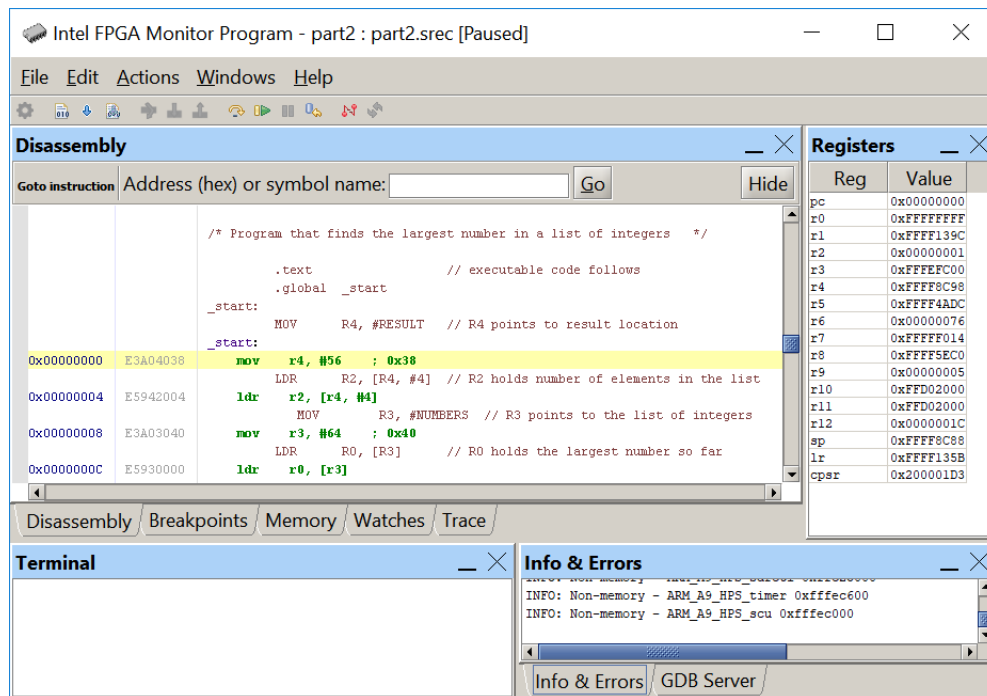

Figure 21: The disassembled view of the program in Figure 1.
3. Compile and load the program. The Monitor Program will display a disassembled view of the machine code loaded in the memory, as indicated in Figure 21.